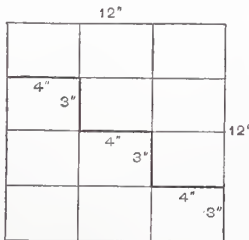

Fig. 2.—W. L. M.'s Method of Joining the Parts.
Figs. 1 and 2 of our novelties this month represent what is known to the trade as Clark's best quality screw-driver, the special feature of which is the handle. This handle is so constructed, as will be readily seen from inspection of the engraving, as to allow the bit to be taken from it at will. The tool is furnished in a neat box, as shown in Fig. 2, the set consisting of three sizes of bits and a handle. Taken altogether, it forms a very handy tool, and is one, we believe, that is destined to find many friends among mechanics. The handle is so con-
Novelties.—Fig. 2.—Case Containing Handle and Set of Screw Drivers.
Comments on First Prize Design.—Fig. 2.—Enlarged Plan of Front Hall from G. W. B.
Fig. 2 is for a case where there are two unequal flares to the hopper. On the right angle A' C D', at D, draw the two flares, as B A, B A', and for the side bevels make C D = A B and C D' = A' B, and connect A D and A' D' for the side bevels shown. Bisect the angles of the flares by the line B X; make C Y = B X, and on X, center, radius X Y, intersect at E, B E being square to C B; connect X E, and on C, center, strike an arc, touching X E to H; square H F to X H, and bisect X F in G, G bevel being the butt and F bevel the miter.
A. S. L. thinks I "have very curious ideas of hopper bevels," and thinks that "few mechanics can be found willing to use a bevel in the manner described by me." Well, I can't help A. S. L.'s geometrical or practical blindness to the advantage of using a bevel in the same manner in which a try-square is used—a manner, too, which makes one independent of whatever form the edge of board might be—say, with both edges rounded to a semicircle. In that case, how would A. S. L. apply the bevel to the edges by his rule? Does A. S. L. think that my present Fig. 2 "has not a single redeeming feature?" No, A. S. L., I am not at all "discouraged," nor do I need to "study carefully," &c., because my rule, as corrected, will, I think, be declared by the readers of this journal, when they weigh the matter, to be the best yet submitted for the solution of hopper bevels.
Hopper Bevels.—Fig. 2.—Accompanying Letter from W. H. C.